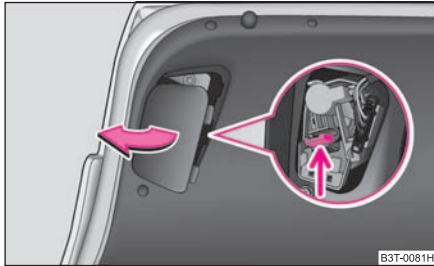

Fig. 223 Remove the inner part of the rear light unit
- Take off the cover of the rear light unit on the inner side of the bonnet lid ⇒ fig. 223.
- Press the spring bolt ⇒ fig. 223 and take the lamp holder out of the housing of the rear light unit.